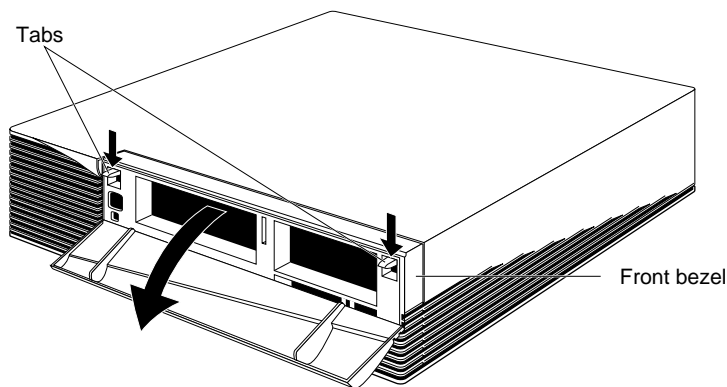

Figure 4-9 Removing the Front Bezel From the Indigo² Chassis
- Press down on the tabs on each side of the bezel, as shown in Figure 4-9.